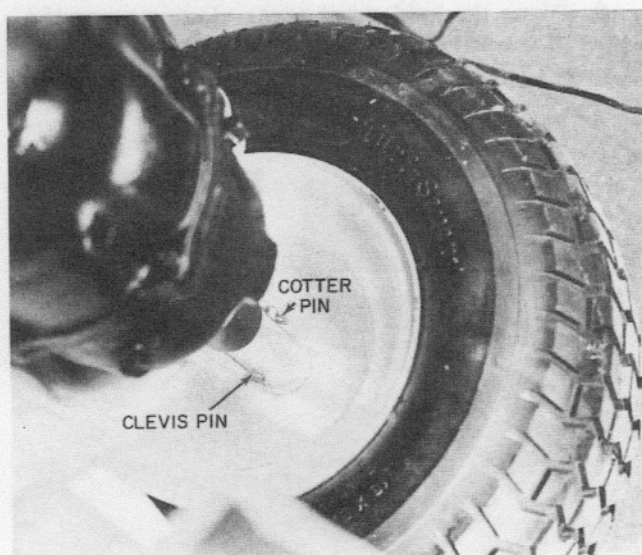

Figure 1
5. Grease the rear axle shaft to prevent rust formation, and install the rear wheels with the extended portions of the wheels' centers toward the tractor. Align the cross-holes of the wheel centers with the corresponding holes in the axle. Insert clevis pins in the holes and secure with cotter pins. (See Figure 1.)